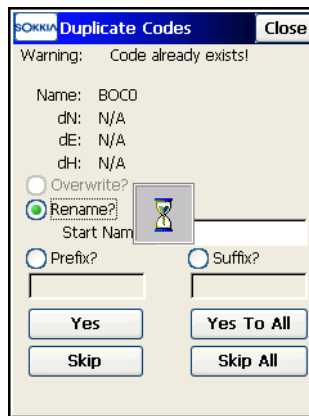

Figure 5-6. Duplicate <Objects>
11. When names of these imported objects coincide with existing ones in the current job, the *Duplicate Objects* screen (Figure 5-6) issues a warning that prevents the loss of points, roads, or point lists.